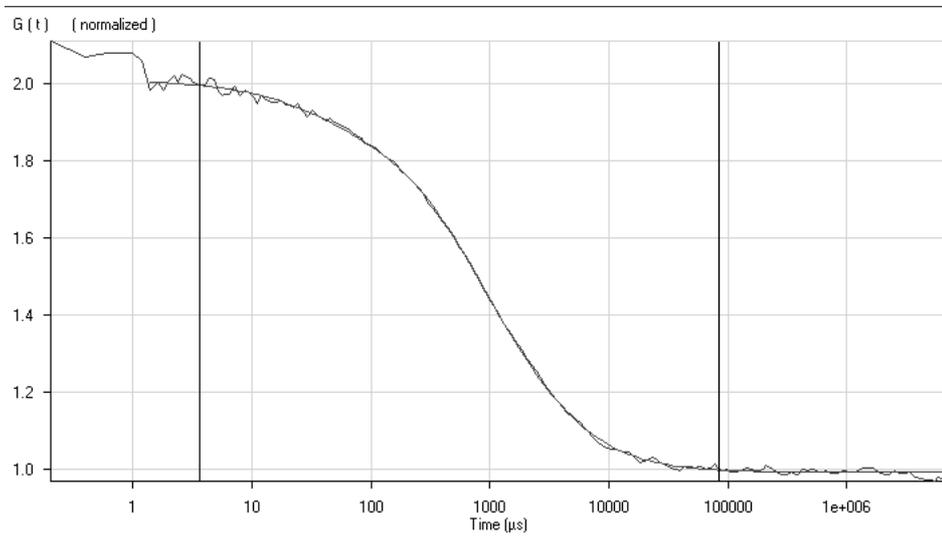

**Fig. 5-379** Subcontext menu of the Normalized view
- Select **Normalized view** to display the correlation curves in a normalized form. Two bars define the positions of the curve that will be normalized to 1 and 2, respectively (see Fig. 5-381). You have the option to normalize to 2 and 1 separately, or to normalize to both **Options** are given in the subcontext menu (see Fig. 5-379). In this case the left bar defines the position where the curve is normalized to 2, whereas the right bar specifies the position at which the curve is normalized to 1.